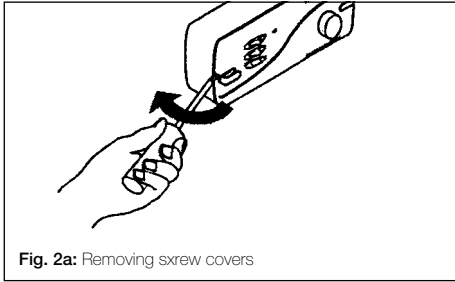

Fig. 2a: Removing screw covers
1. Detach the fascia from the mounting frame by removing the screw covers and two screws (see fig. 2a & b).